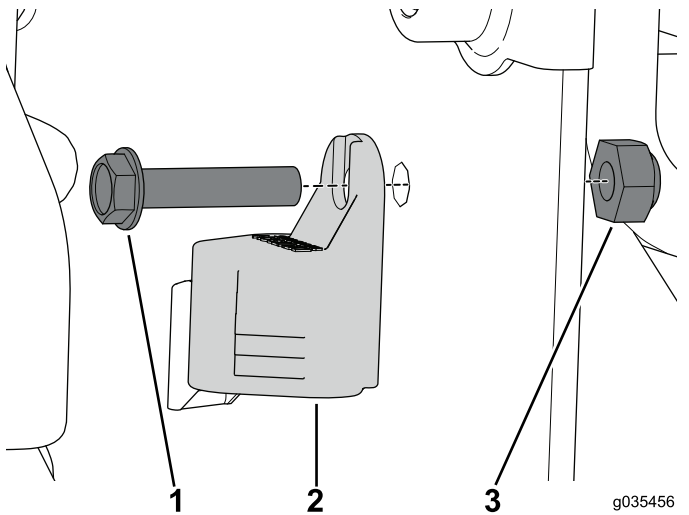

Figure 16
9. Use the bolt (#10 x 7/8 inch) and locknut to secure the plug cap to the controller box (Figure 16).